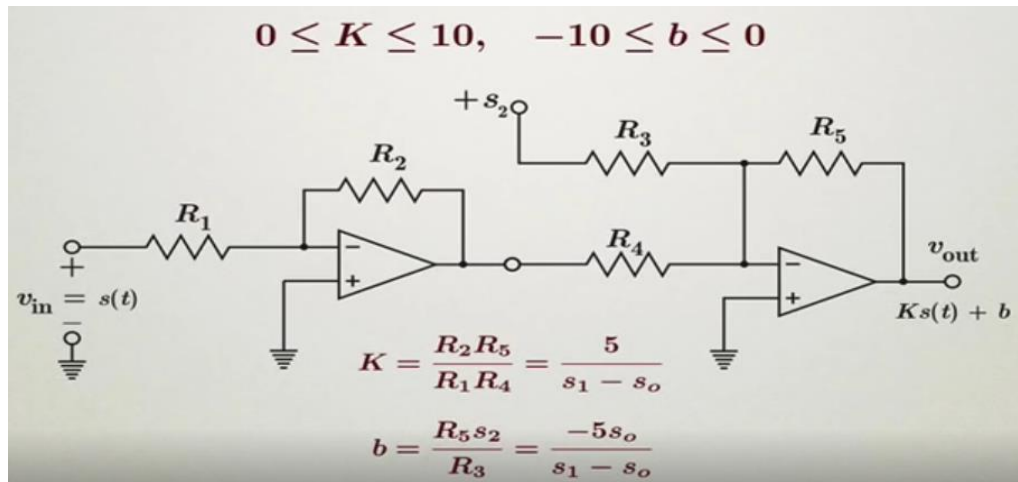

Figure 4: Signal conditional circuit
1. Drive the output voltage equation (V_{out}) that shown in figure 4.